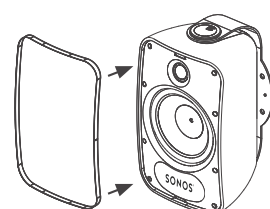

Figure 10: Attach the Grille
8. Fit the grille onto the speaker by aligning the edges of the grille with the groove of the speaker face perimeter and pressing firmly until it is snugly in place (see figure 10). Start by inserting and pressing along the long edge, then insert one of the short edges. Continue with the other long edge, and finally the other short edge.